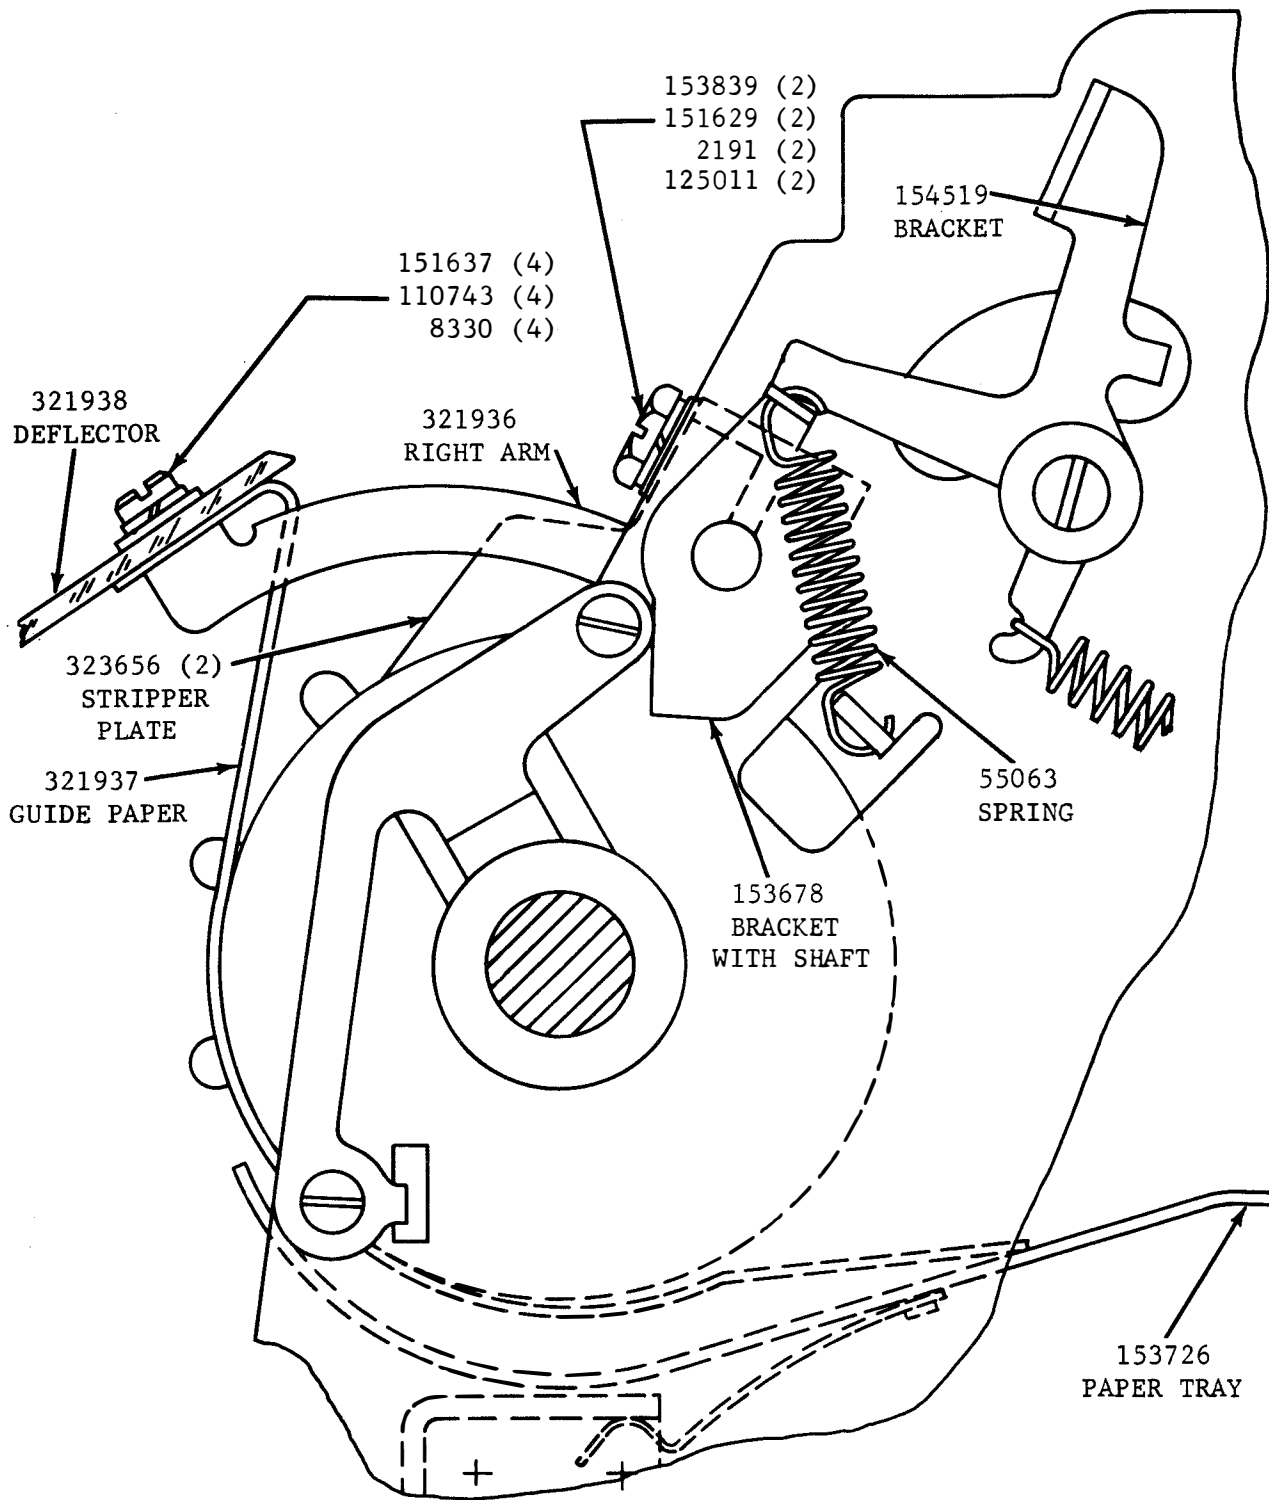

Figure 1
- 2.01 Remove the 55063 spring and the 128357 retainer from the 153678 bracket with shaft. Slide shaft out of its guide. See Figure 1.
- 2.05 Insert both 321937 paper guides under platen making sure that paper guides are positioned above ribbon reversing shaft. See Figure 1.
- 2.09 Place the 321938 deflector in place. Retain with four (4) 151637 screws, four (4) 110743 lockwashers, four (4) 125011 flat washers. See Figure 1.
- 2.11 Replace the 153726 paper tray. The 321937 paper guides must rest on top of the paper tray. See Figure 1.